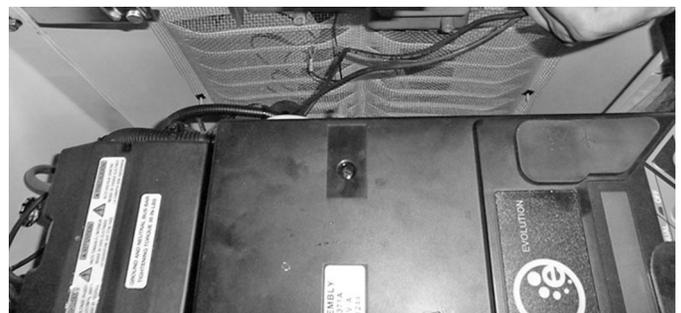

Figure 2-3.
6. Install the generator controller fascia (Figure 2-3).